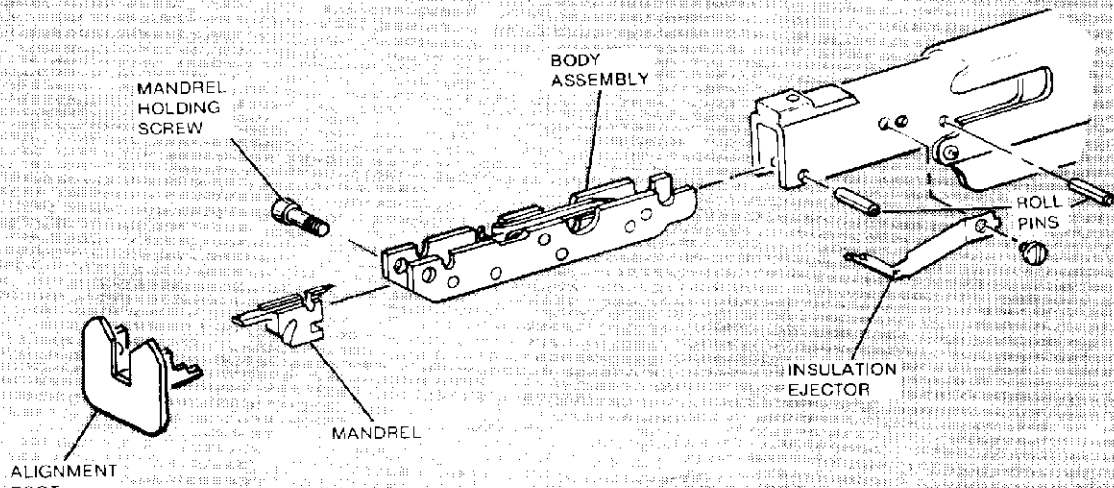

Figure 3
- (f) Remove body assembly from front of tool by driving out roll pins. See Figure 3.